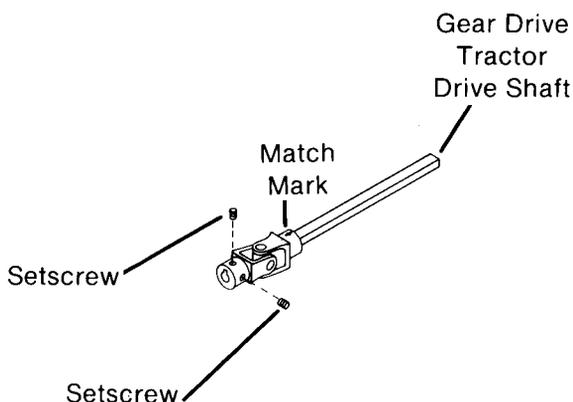

FIG. 51
- Loosen two setscrews through rear drive shaft universal joint. (Fig. 51)
NOTE: Drive shaft is a balanced assembly and **must** be reassembled the same way it was removed. Match marks (arrows) are stamped onto both front and rear universal joints, if chalk marks are not made, to insure proper reassembly. (Fig. 51)